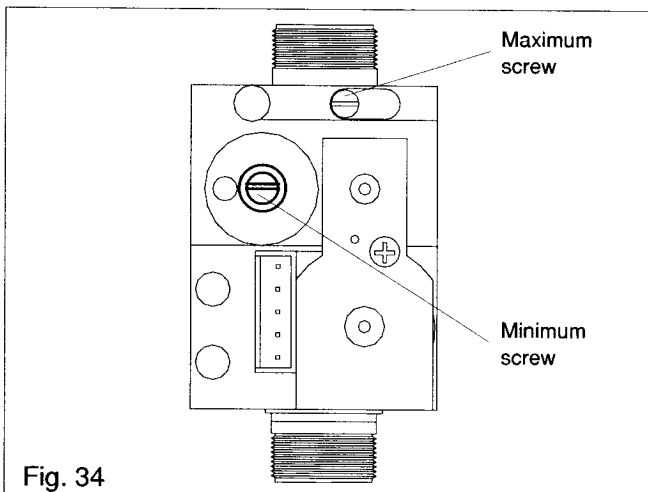

Fig. 34
- Remove the cover, then using a suitable screwdriver, very slowly turn the minimum adjustment screw (see fig. 34) – clockwise to increase, counter clockwise to decrease – until the correct value is displayed on the CO₂ analyser (allow time for the analyser to stabilise).
- Using a suitable screwdriver, very slowly turn the maximum adjustment screw (see fig. 34) – clockwise to increase, counter clockwise to decrease – until the correct value is displayed on the CO₂ analyser (allow time for the analyser to stabilise).